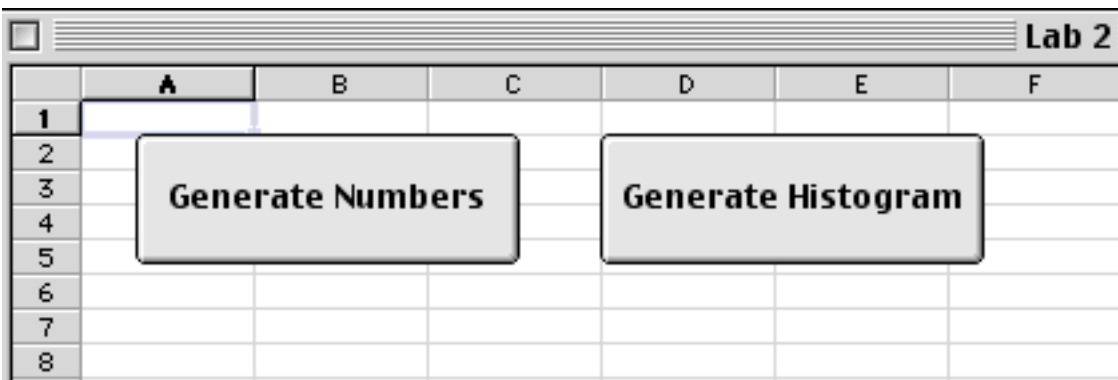

Figure 3
- When the spreadsheet opens, you should see a spreadsheet with two buttons, as seen in Figure 3.